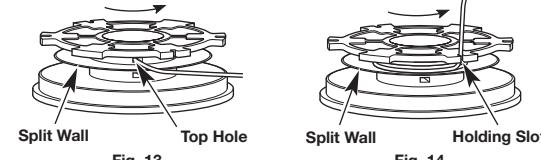
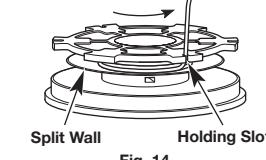

Fig. 13
Fig. 14
- Insert the end of one line into the top hole in the inner reel (Fig. 13). Wind the line tightly in the direction shown on the bottom of the inner reel until about 6 inches (150 mm) of line remains. Keep the line above the split wall. Insert the 6-inch section into the nearest .095 holding slot (Fig. 14).